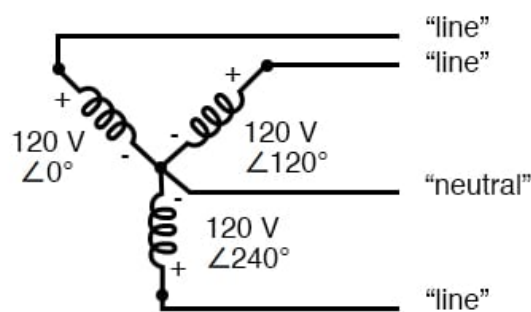

Figure 7 – 3 Phase, 4 Wire Systems
A 3-phase 4-wire system (Wye or “Y” connection) consists of three alternating current (AC) phase wires, each 120° out of phase with the others, plus a neutral wire. See **Figure 7**.